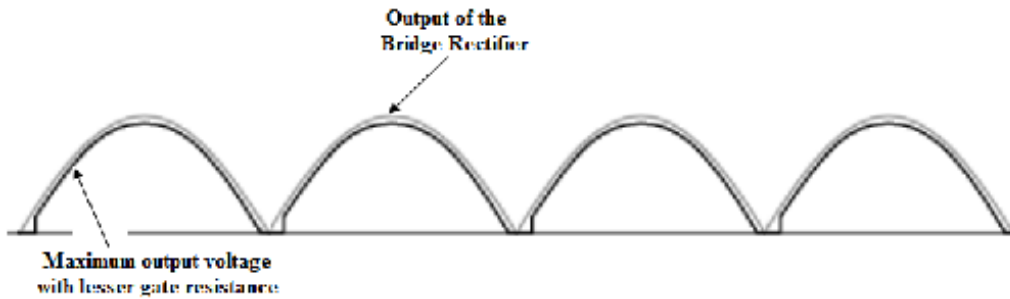

Fig.1. Maximum output voltage with lesser gate resistance
- We can delay the triggering of the SCR; however, by inserting some resistance into the gate circuit, thus increasing the amount of voltage drop required before enough gate current triggers the SCR. Increasing the resistance raises the threshold level, causing less power to be delivered to the load which is shown in figure 2. Decreasing the resistance lowers the threshold level, causing more power to be delivered to the load which is shown in figure 1.